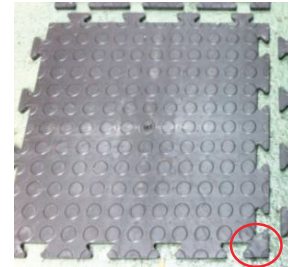

Fig.3
- ✓ Use the arrow shaped corner (fig. 3) to make sure the tiles are laid out the same way round.